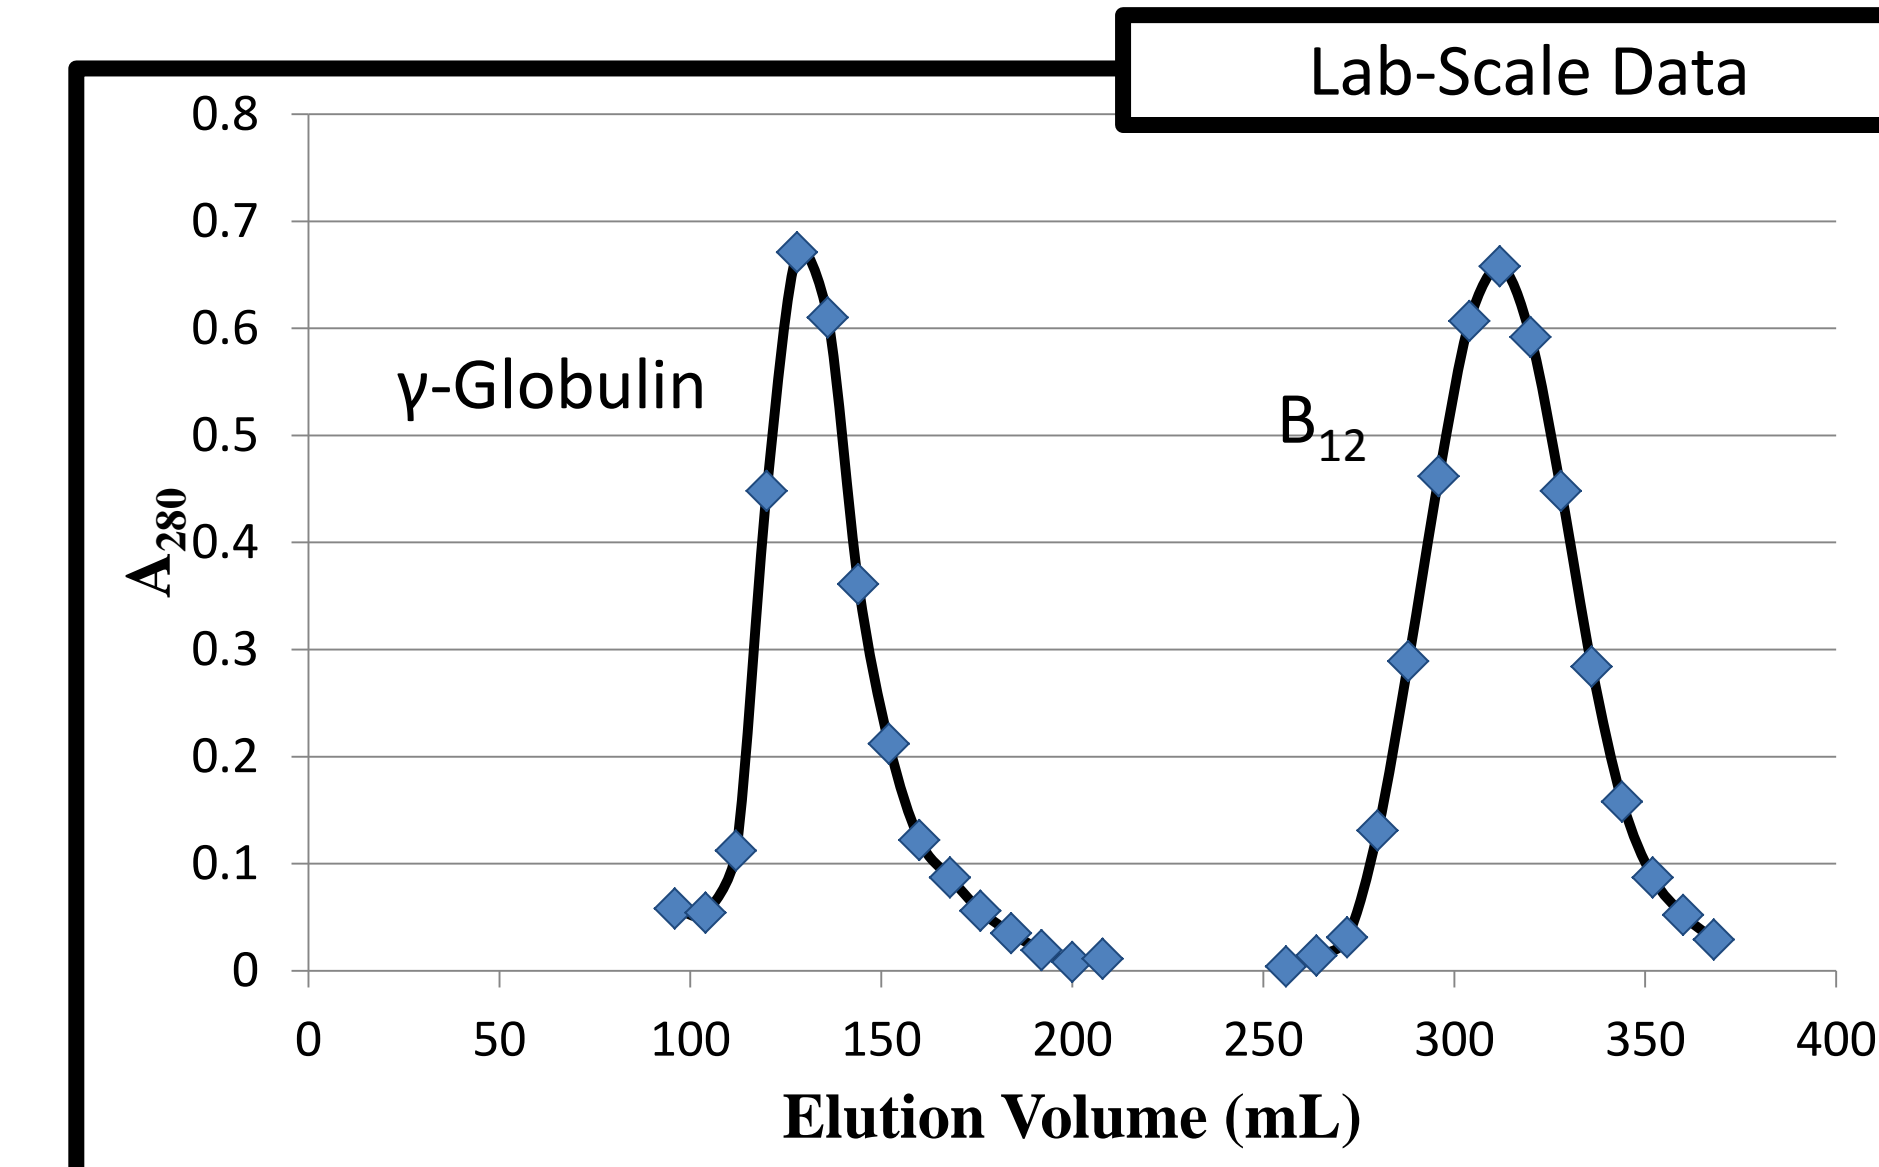

Figure 8. Elution Profile of Lab-Scale System in a 17 cm Bed Length SEC Column
- The column was scaled-up to separate a larger sample with the same purity and yield as the bench-scale system. Results are shown in Figure 8.